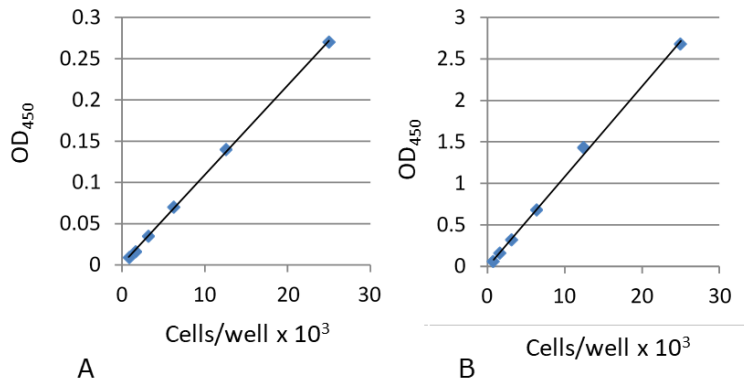

Figure 3. Standard curves for (A) HL60 and (B) HeLa cells.
- The incubation time varies by the type and number of cells in a well. For example, please see data in Figure 3 comparing HL60 and HeLa cells. Leukocytes give weak coloration, thus a long incubation time (up to 4 hours) or a large number of cells ($\sim 1 \times 10^5$ cells/well) may be necessary.